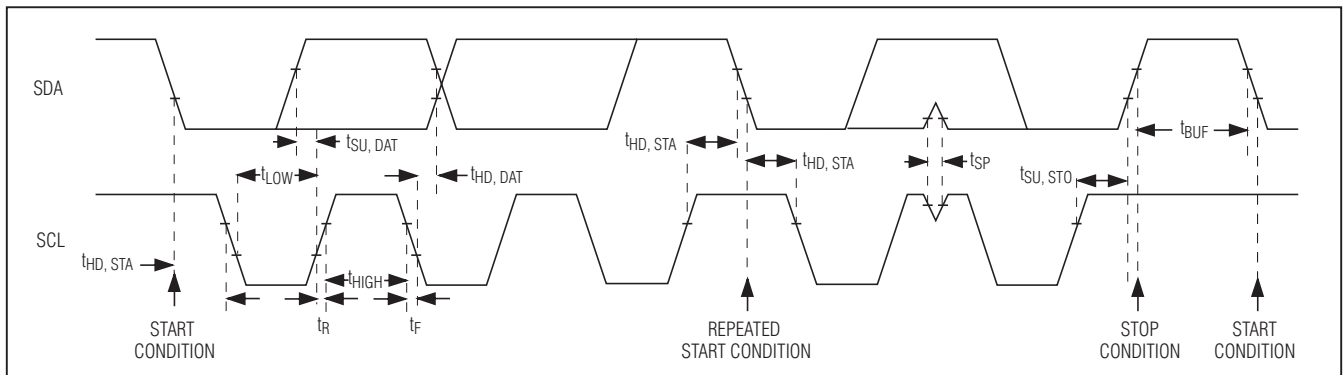

Figure 8. 2-Wire Interface Timing Diagram
The MAX9856 features an I2C/SMBus™-compatible, 2-wire serial interface consisting of a serial-data line (SDA) and a serial-clock line (SCL). SDA and SCL facilitate communication between the MAX9856 and the master at clock rates up to 400kHz. Figure 8 shows the 2-wire interface timing diagram. The master generates SCL and initiates data transfer on the bus. The master device writes data to the MAX9856 by transmitting the proper slave address followed by the register address and then the data word. Each transmit sequence is framed by a START (S) or REPEATED START (Sr) condition and a STOP (P) condition. Each word transmitted to the MAX9856 is 8 bits long and is followed by an acknowledge clock pulse. A master reading data from the MAX9856 transmits the proper slave address